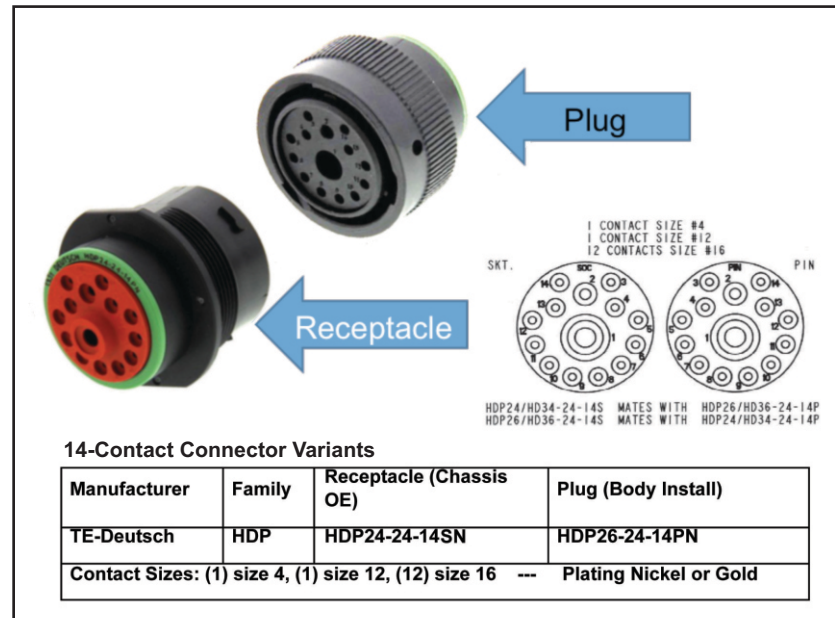

Figure 5: 14-contact Connector
- 14-contact connector - **Table 6, Figs 5 & 6.**